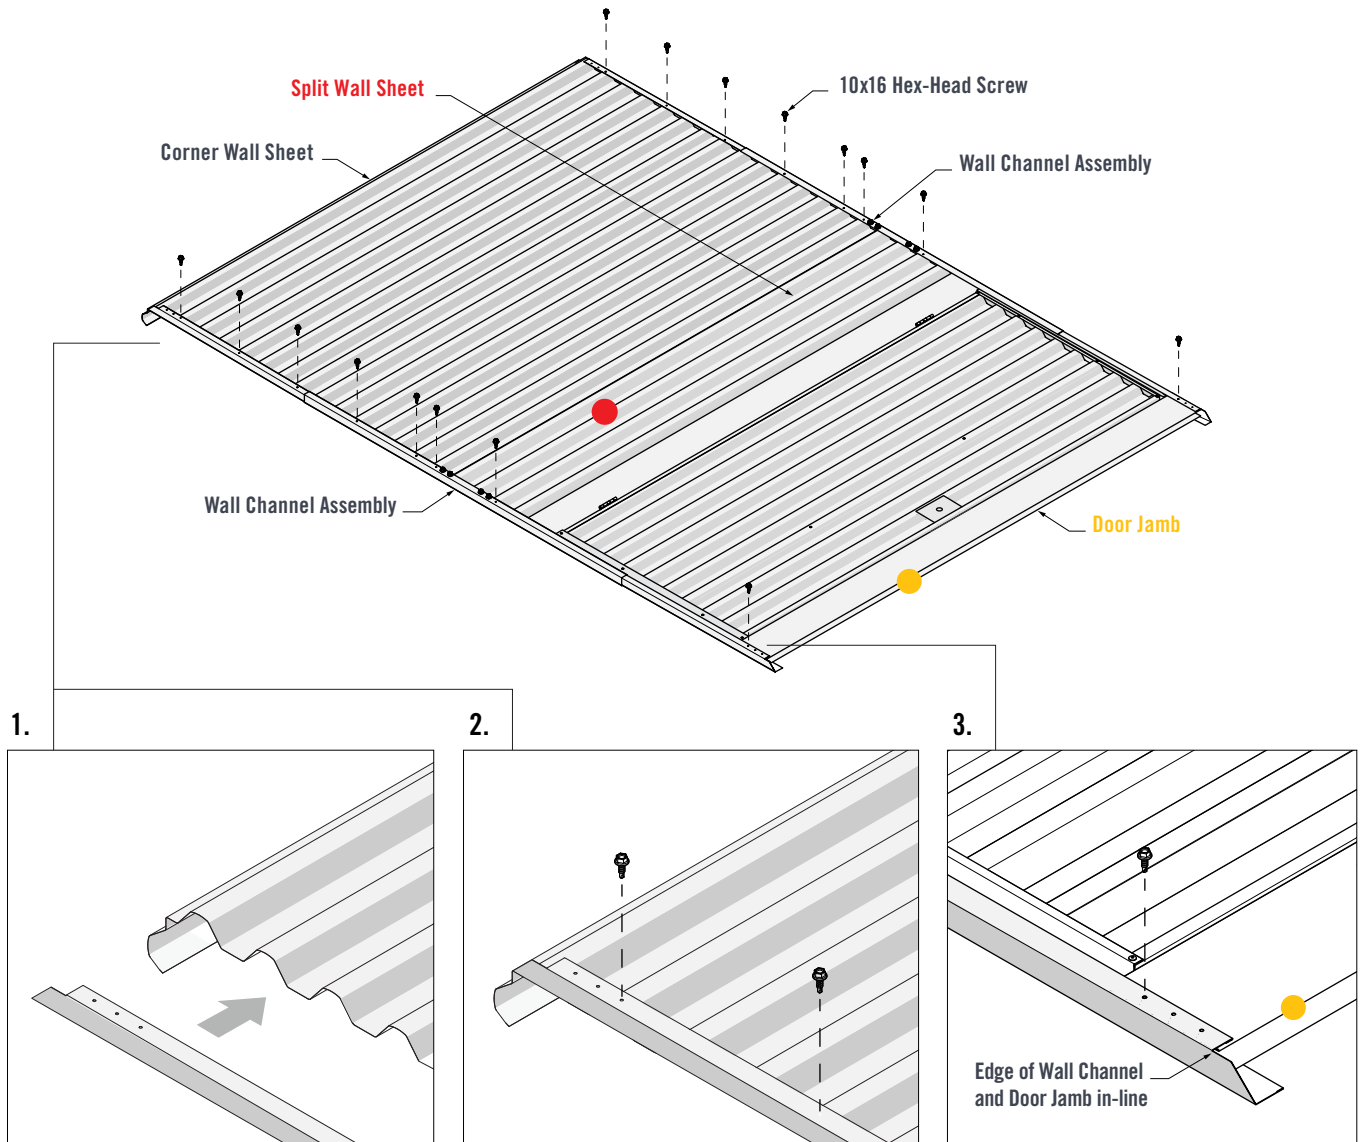

FIGURE 4.2
1. Fit two Wall Channel Assemblies over the lapped Wall Sheets and Door Jambs. The end of the Wall Channels should fit up against the end of the Corner Wall Sheet (Figure 4.2).
2. Fasten one 10x16 Hex-Head Screw through the third pilot hole of the bottom and top Wall Channels and into the Corner Wall Sheet crest. Fasten six 10x16 Hex-Head Screws through the bottom and top Wall Channels and into every third Wall Sheet crest (Figure 4.2).
3. Ensure the edge of the Wall Channels and Door Jamb are in-line. Fasten one 10x16 Hex-Head Screw through the third pilot hole of the bottom and top Wall Channels and into the Door Jamb (Figure 4.2).